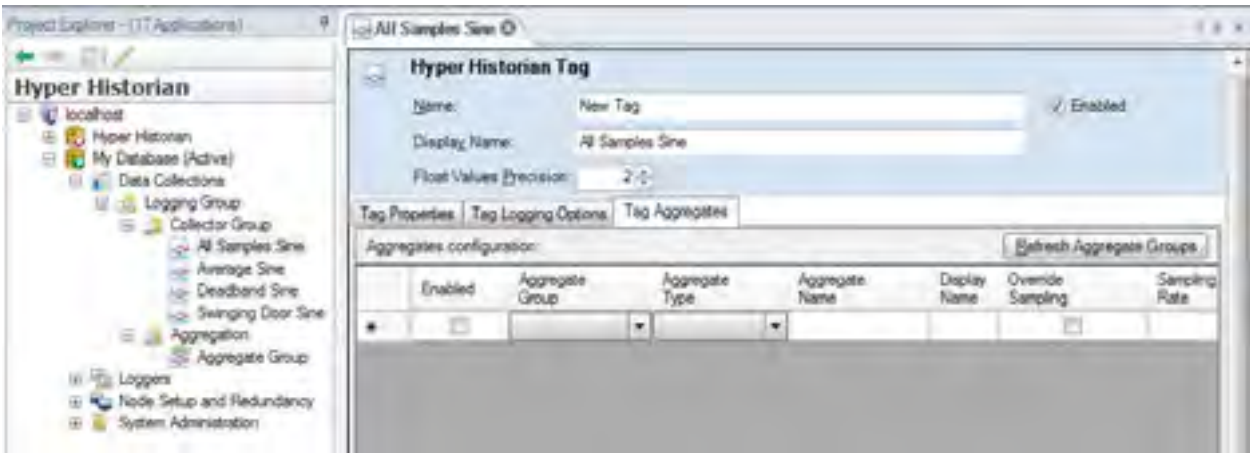

Figure L4.3 - Hyper Historian Tag Configuration, Tag Aggregates Tab
1. In the Project Explorer, expand the logging group's **Collector Group** and double-click the **All Samples Sine** Hyper Historian tag to open its configuration, and go to the configuration's **Tag Aggregates** tab, as shown in Figure L4.3.